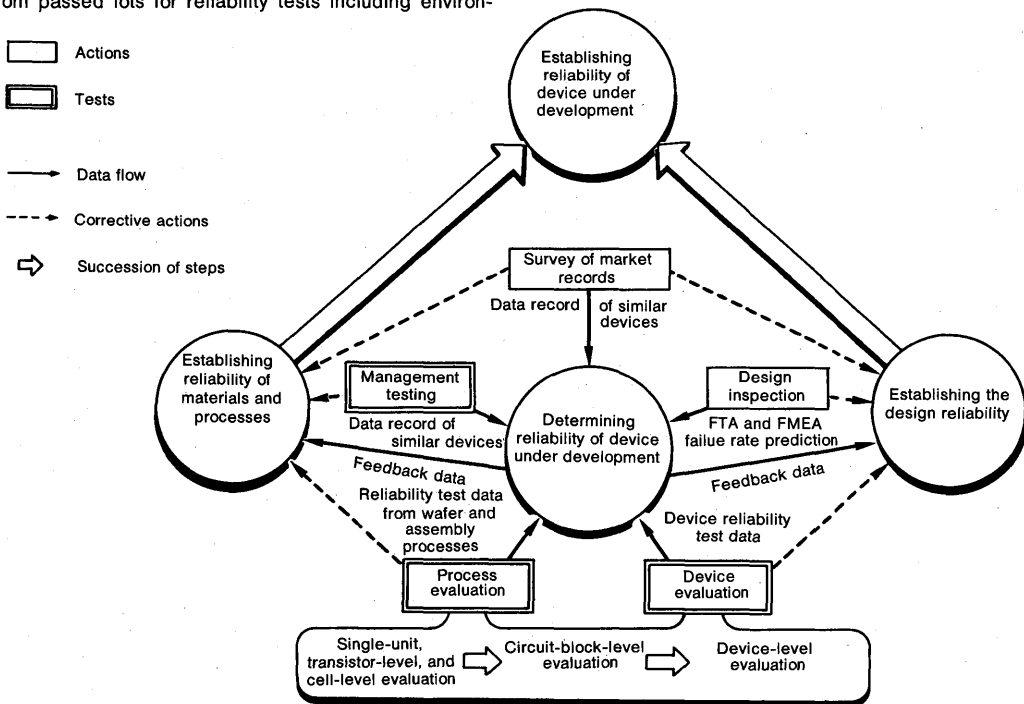

Fig.2 Methods of Determining and Ensuring Reliability
- (1) The basic operation of the circuits is checked at the transistor and cell level using breadboarded circuits. These measurements are used to determine the basic reliability of the wafer process and the design.
- (2) A simple block circuit is evaluated.
- (3) The products are evaluated as the intergration scale is raised successively to ensure overall reliability. Fig. 2 shows the elements of these processes.